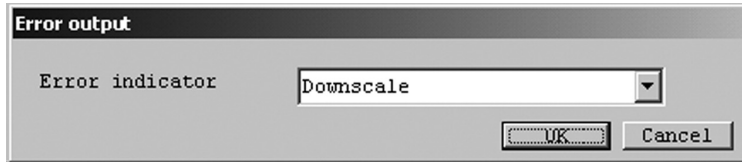

Fig.33
- ⑥ After clicking on "OK" button, the message box for filling in fields of items appears again. Click on "Cancel" button to hide the message box for filling in fields of items. To abort the setup process, click on "Cancel" button in the course of steps ② through ④.
- ① Click on "Setup (S)" at top-level menu of the screen, select "Error output" from "Conf. output" drop-down list, and click on again.
- ② A message box as shown in Fig. 33 appears. Output levels in an error are set up at this window.